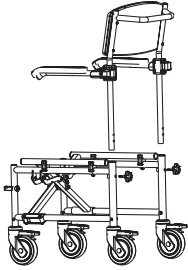

Fig.15
- Insert the backrest inside the holes on the wheelchair frame and fix the backrest using the two fixing knobs (Fig.15);